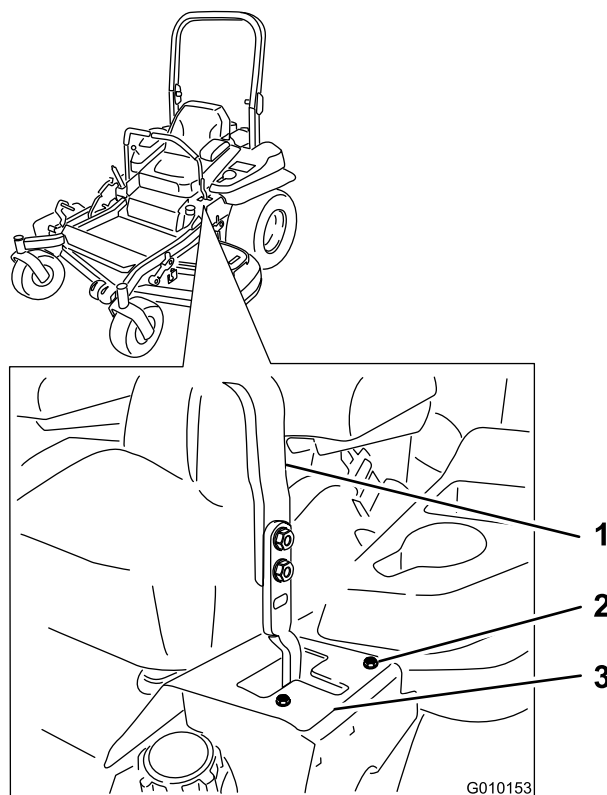

Figure 60
- If the machine tracks to the right, loosen the bolts and adjust the left stop plate rearward on the left T-slot until the machine tracks straight (Figure 60).
- If the machine tracks to the left, loosen the bolts and adjust the right stop plate rearward on the right T-slot until the machine tracks straight (Figure 60).
8. Tighten the stop plate (Figure 60).